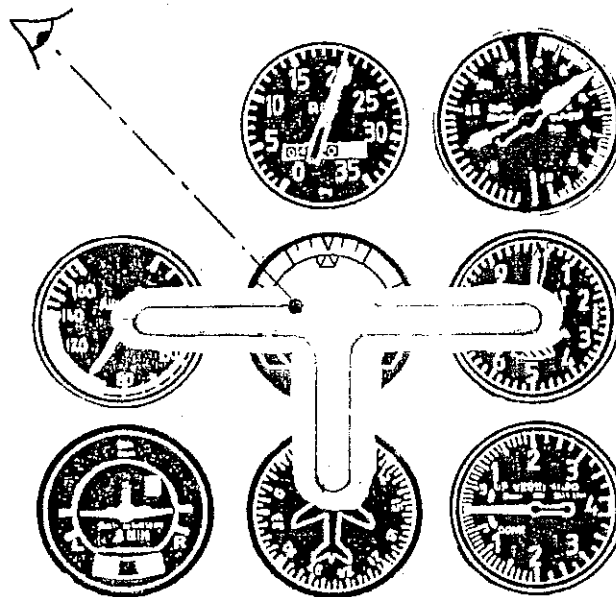

Fig 19.2 Principle of selective radial scan
6 To obtain all the information shown on the instruments, they must be scanned methodically. An obvious method would be to look at each instrument in turn in, say, a clockwise or anti-clockwise direction. Although no instrument would be omitted from a scan such as this, it has the disadvantage that no priority would be given to the master instrument (AH) or to those performance instruments that were important for any particular manoeuvre (for example, the DI when rolling out of a turn). To overcome disadvantages such as these, the technique is to scan radially out from the AH to the performance instruments and back to the AH. Furthermore, since the performance information required differs for each manoeuvre, the scan is made selective. In this way, each performance instrument will be interrogated according to its importance at any given moment. This method, illustrated in (Fig 19.2), is known as selective radial scan. Note that two performance instruments are never scanned in succession; the route from one to another invariably goes through the master instrument (AH).